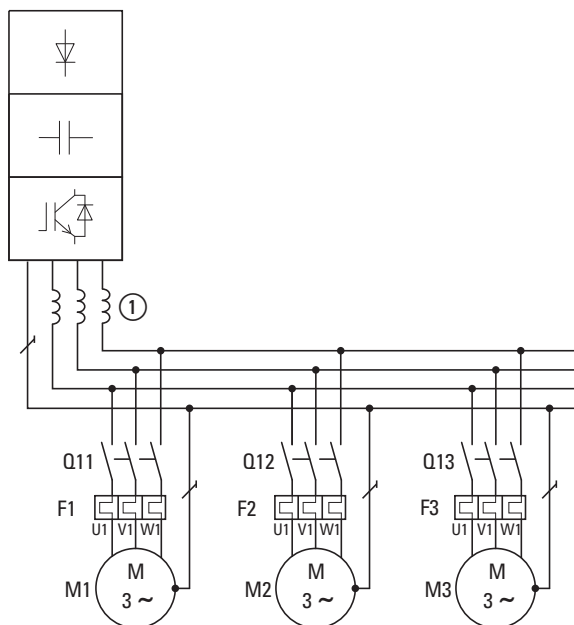

Figure 12: Parallel connection of several motors to one variable frequency drive
To reduce the current distortion, you should use motor reactors (see ① in Figure12) in the output of the variable frequency drive.